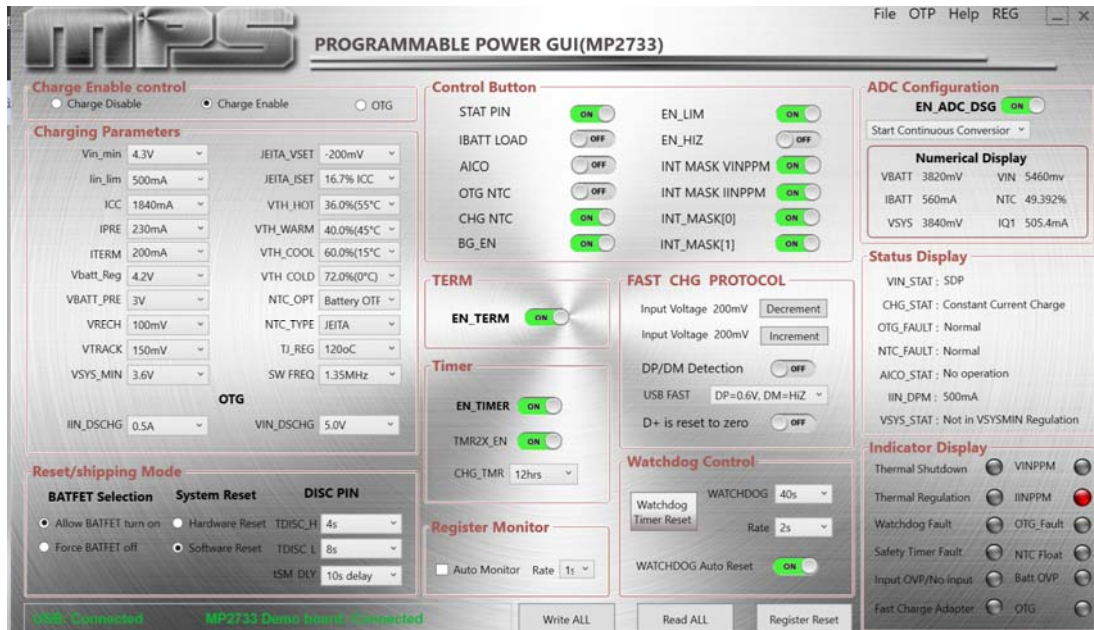

Figure 3: MP2733 Evaluation Software
- Turn on the computer, and launch the MP2733 evaluation software. Figure 3 shows the GUI software's main window.
- Ensure that all the connections are successful (the EVKT-USB2C-02 and the EV2733-QC-00A are connected). Successful connections are indicated in green on the lower-left side of the window (see Figure 3). The program is ready to be run once all of the connections are successful.